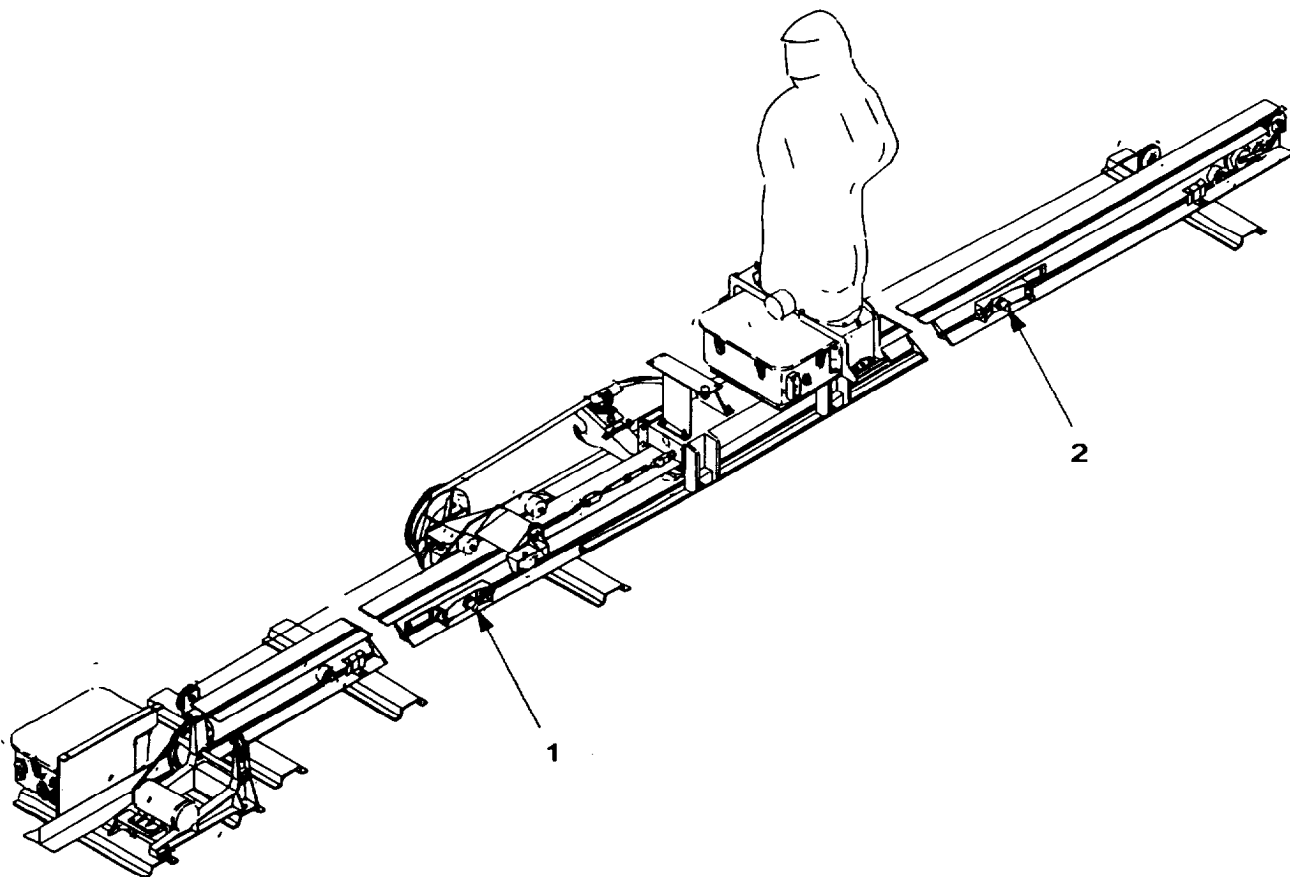

Figure 2-4. Forward and Reverse Proximity Switches.
- (17) Refer to figure 2-4. Check positions of forward proximity switch (1) and reverse proximity switch (2) on track assemblies. If IMTC has been set to operate at high speed, move both limit switches to the innermost position on the drive end track section and return end track section. Refer to paragraphs 4-17 and 4-33.